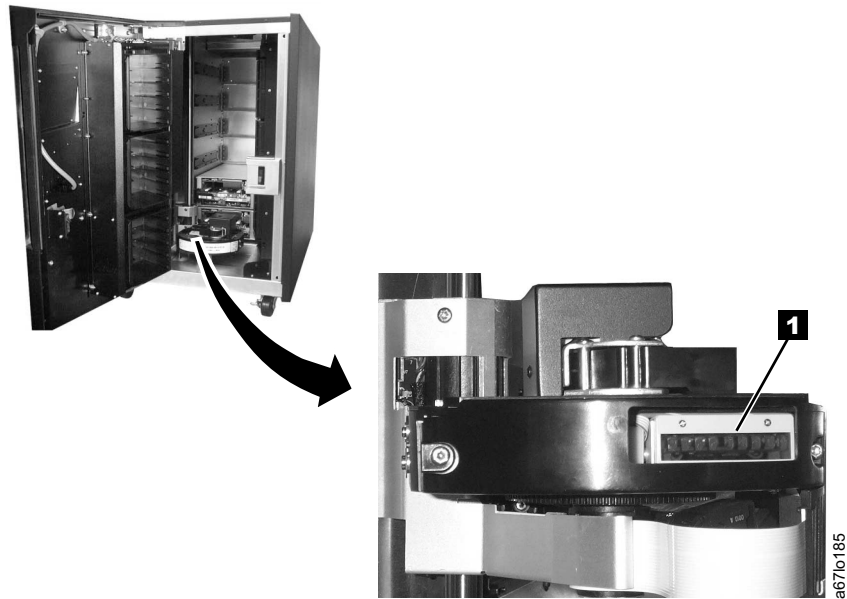

Figure 204. Cleaning the bar code scanner
2. Wipe the bar code scanner window ( **1** in Figure 204) with a lint-free cloth.